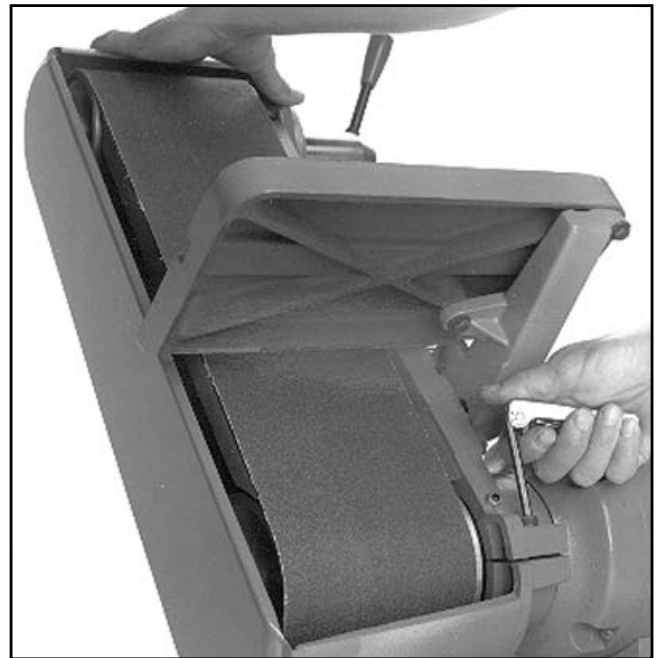

Figure 4. Attaching belt table.
1. Swing the belt assembly to its vertical position by loosening the 6mm Allen® capscrew shown in **Figure 4**. Tighten capscrew to hold the belt assembly in this position.